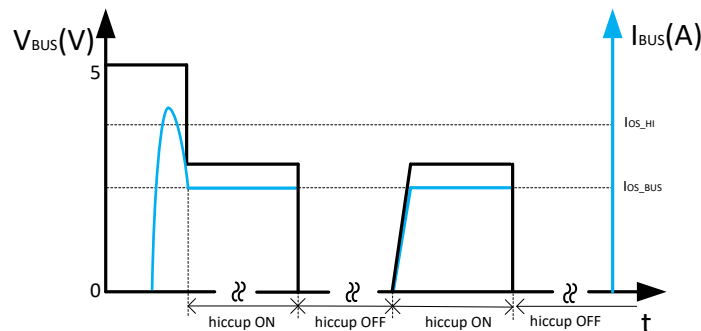

Figure 10-7. BUS Overcurrent Protection: Two-Level Current Limit
- The third condition is the load current increases just over the I_{OS_HI} setting. In this case, it will not trigger the fast turnoff, the USB power switch current limit threshold is set back to the primary current limit, I_{OS_BUS} , immediately. If the load still demands a current greater than I_{OS_BUS} , the USB output voltage decreases to $I_{OS_BUS} \times R_{LOAD}$ for a resistive load, which is shown in Figure 10-7. If the overcurrent limit condition lasts longer than 4.1 ms, the corresponding USB channel enters hiccup mode with 524 ms of off-time and 4.1 ms of on-time. Another USB channel still works normally.